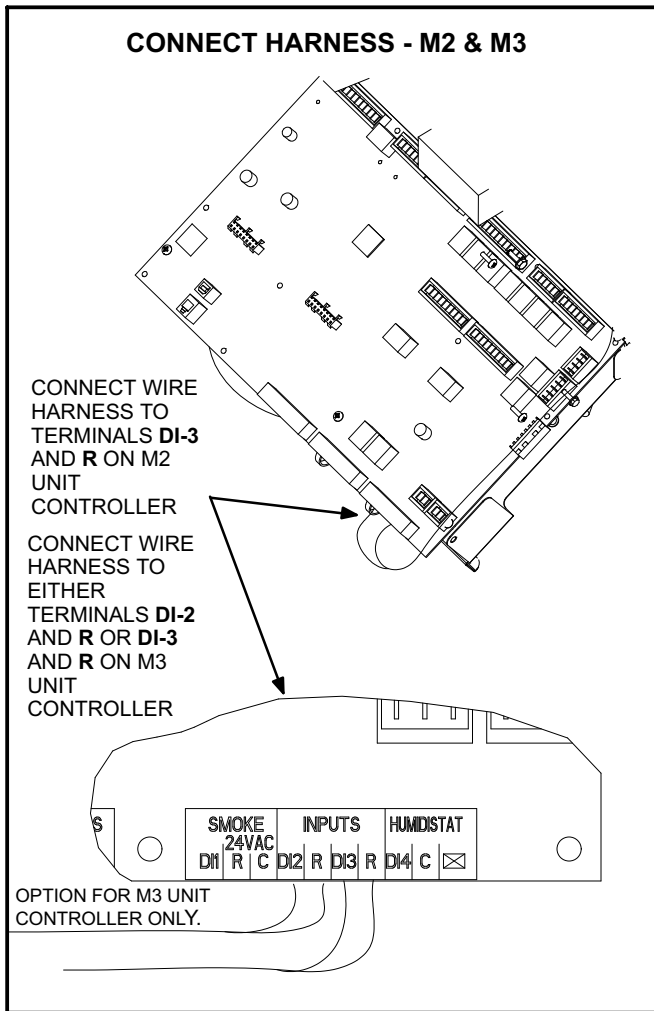
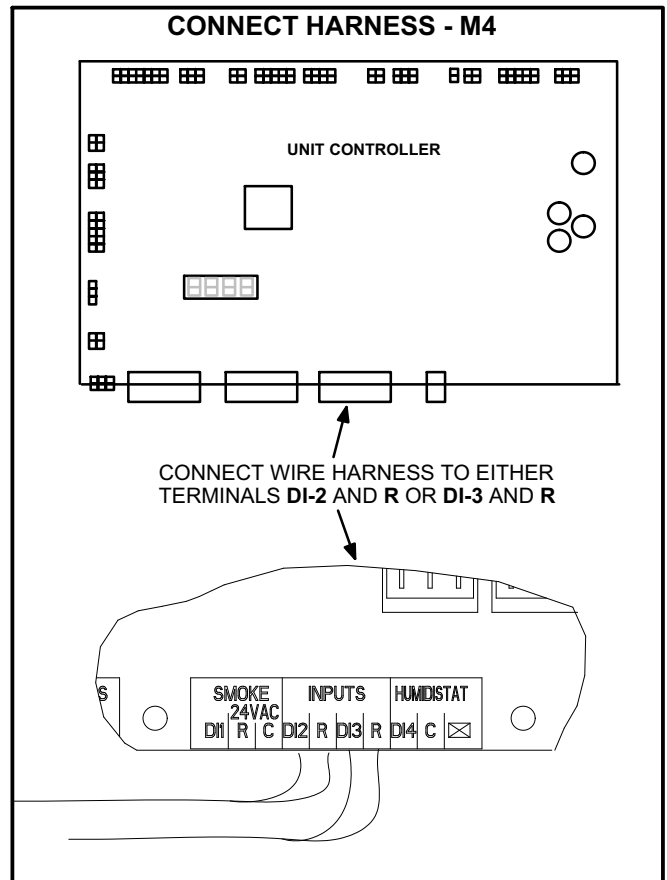

FIGURE 6
FIGURE 7
- 4- Connect wire harness to Unit Controller terminals DI-2 or 3 and R. See figure 6 for M2 and M3; see figure 7 for M4.